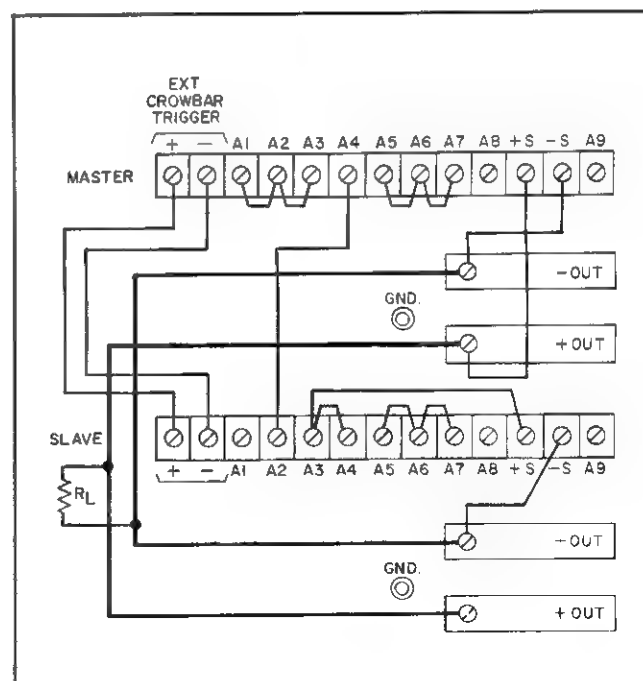

Figure 3-10. Auto-Parallel Operation of Two Units
**3-52** Use the rear panel interconnections shown in Figure 3-10 or 3-11 to auto-parallel two or three supplies. This mode of operation provides a greater current capacity than can be obtained from a single supply while maintaining nearly equal load sharing among the paralleled supplies under all load conditions. Supplies having the same model number make the most practical auto-parallel combinations, but any of the supplies included in this manual that have equal current ratings may be used.
**3-54** **Overvoltage Protection in Auto-Parallel.** The interconnections shown in Figures 3-10 and 3-11 between the external crowbar trigger terminals on the master and on the slave(s) must be made to permit the overvoltage crowbar in the master to fire the SCRs in the master and the slave(s) if an overvoltage condition occurs. Be sure to connect them with correct polarity, plus to plus and minus to minus. Set the slave supply overvoltage potentiometer(s) to maximum (clockwise) to disable them, and adjust the overvoltage trip point at the master supply.